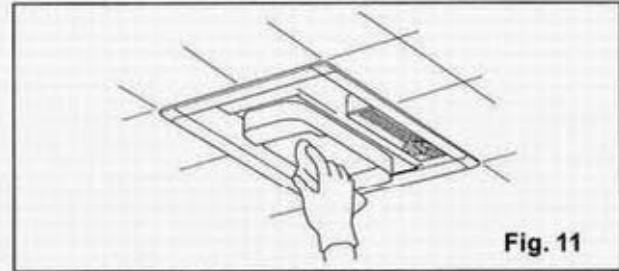

Fig. 11
4. Using a cloth dampened with kitchen detergent, remove any dirt from fan body. Wipe dry with new cloth. (Fig.11)